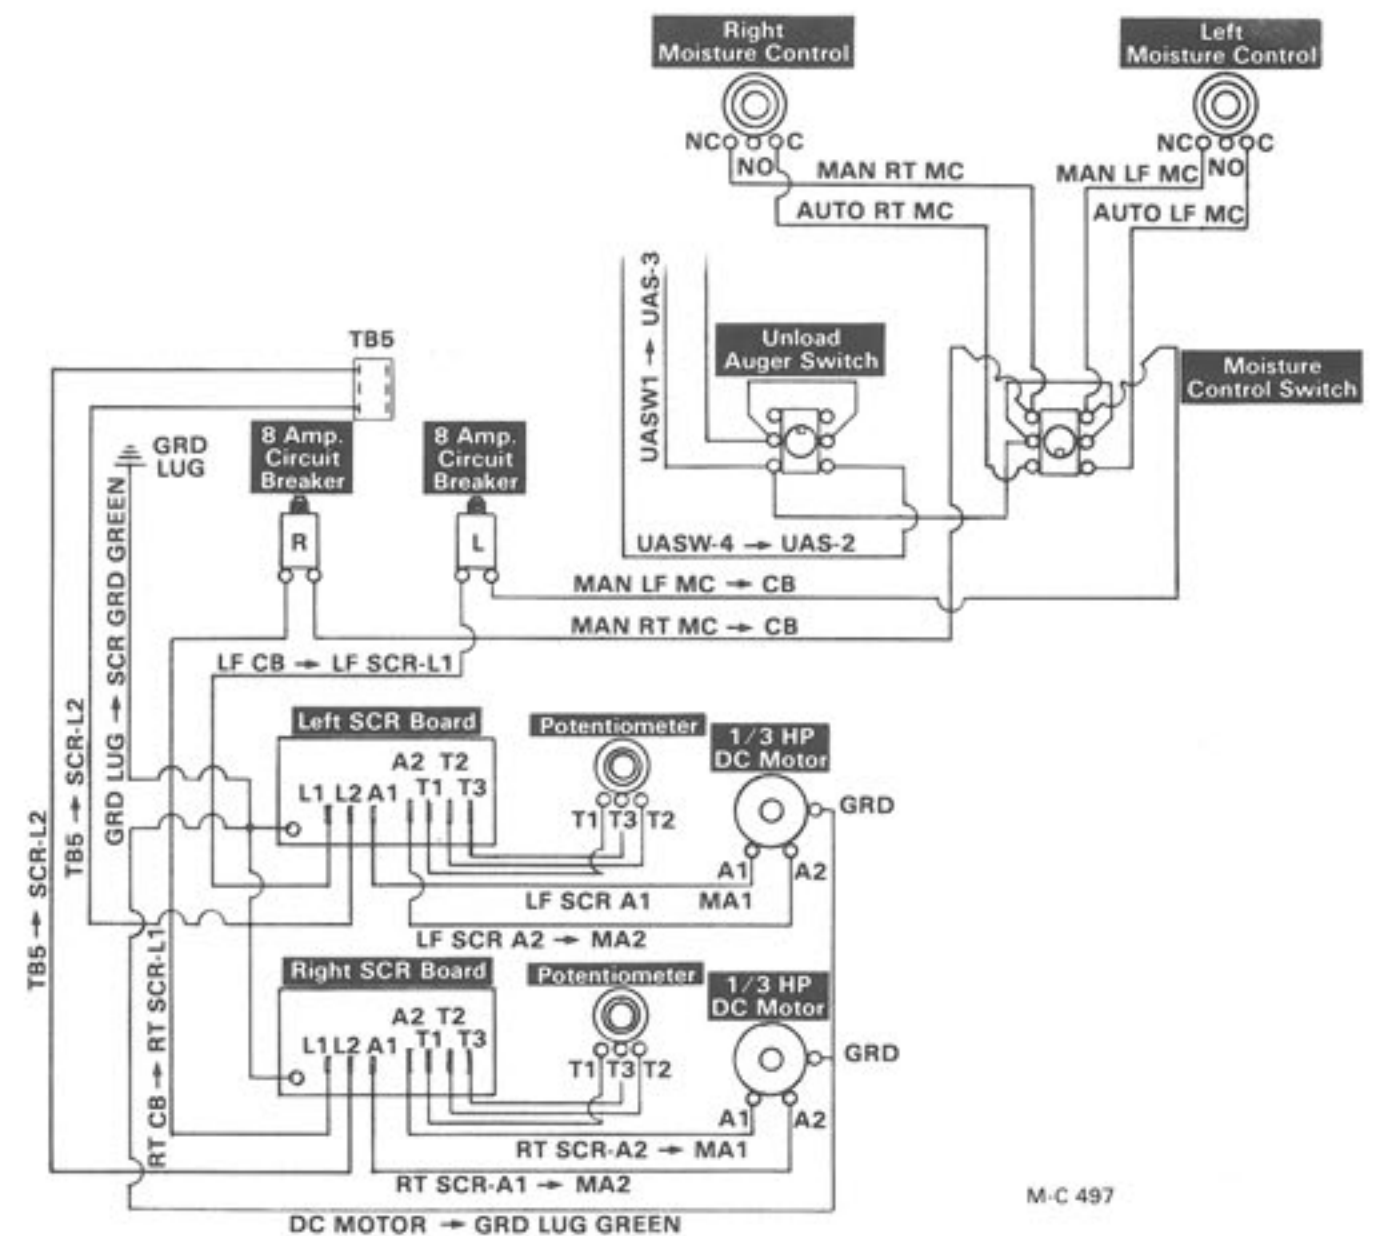

Figure 17 - SCR Control Box, Unload Auger Switch and Moisture Control Switch Wiring
SCR Motors (see Figure 17)
1. Connect the two white wires coming from the SCR control box imprinted TB5 → SCR-L2 to terminal block No. 5, see Figure 17, page 9. Connect the green ground wire to the ground lug in the lower cabinet.